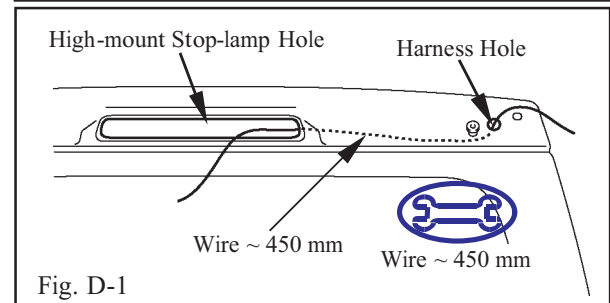

Fig. D-1
- ➔ 1. Insert wire through harness hole (17mm dia.) towards high-mount stop-light opening. (Fig. D-1)